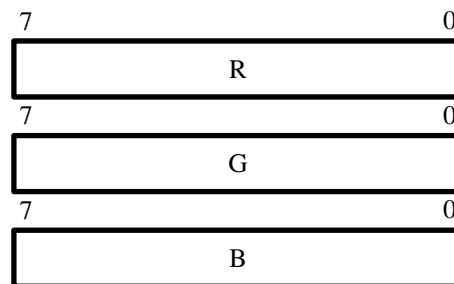

Figure 18. Bayer Pattern RGB Color Space.
- Bayer Pattern — This is a special case of the RGB color space where each pixel has a value for only one of the three colors. The pattern of the colors in the frame is shown in 17. Figure 18 shows the format of the bayer pattern data. This mode is defined as 8 bits per color and one color plane.